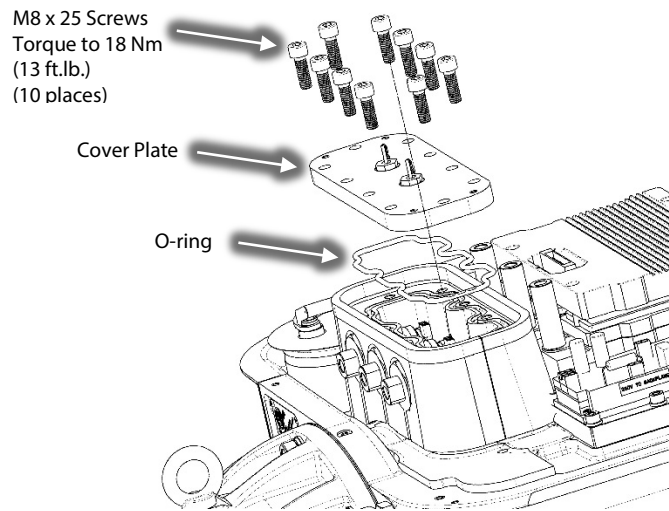

Figure 6 – Cover Plate Removal
16. Remove the 10 screws which secure the Cover Plate to the Main housing. Refer to Figure 6 (Cover Plate Removal).